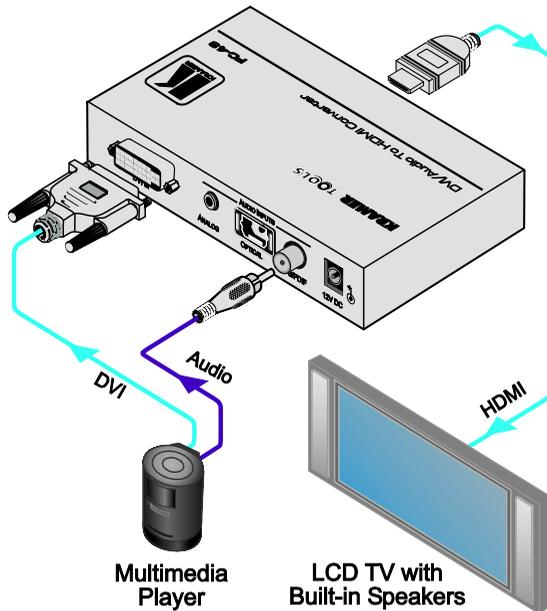

Figure 2: Connecting the FC-49 DVI / Audio to HDMI Converter
To connect the **FC-49**, as the example in Figure 2 illustrates, do the following¹:
3. Connect the 12V DC power adapter to the power socket and connect the adapter to the mains electricity (not illustrated in Figure 2).